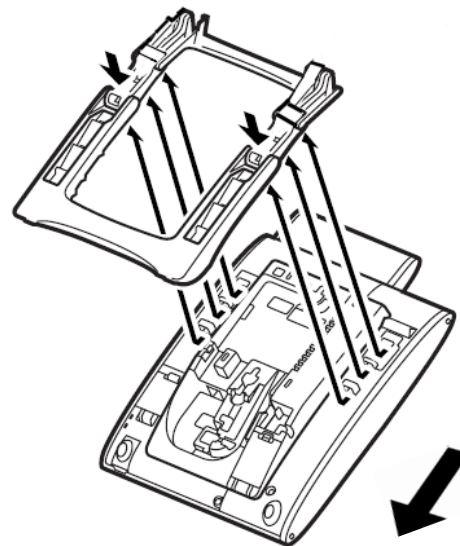

Figure 5-65 Remove Tilt Legs from Multiline Terminal
3. Push downward (two arrows) and slide downward (refer to Figure 5-65 Remove Tilt Legs from Multiline Terminal).